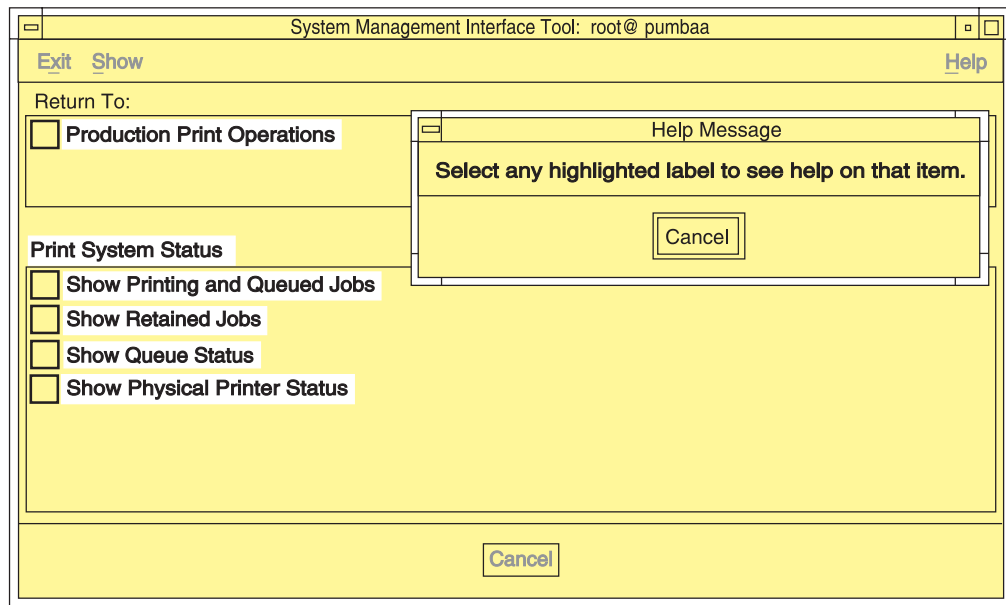

Figure 25. Help for SMIT Panel Menu Selections
1. Press **Ctrl + F1**. All the menu selections on the panel are highlighted. The mouse pointer changes to a question mark. A **Help Message** window opens with instructions on how to access help. Figure 25 on page 67 shows an example of the results of pressing **Ctrl + F1** for a SMIT panel.